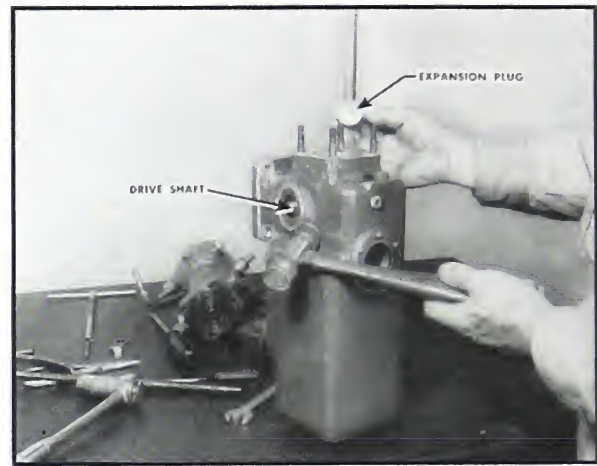

Fig. 5-378. Drive out drive shaft
7. Take out the sump drain plug and use a long punch to drive out the governor driven shaft assembly. Fig. 5-378.
9. Drive out governor drive shaft assembly and expansion plug. Fig. 5-378.